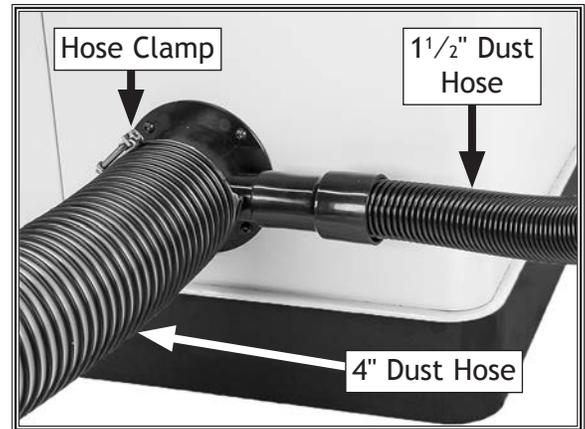

Figure 35. Dust hoses attached to port.
1. Fit a 4" dust hose over the dust port and secure it in place with a hose clamp (see Figure 35).